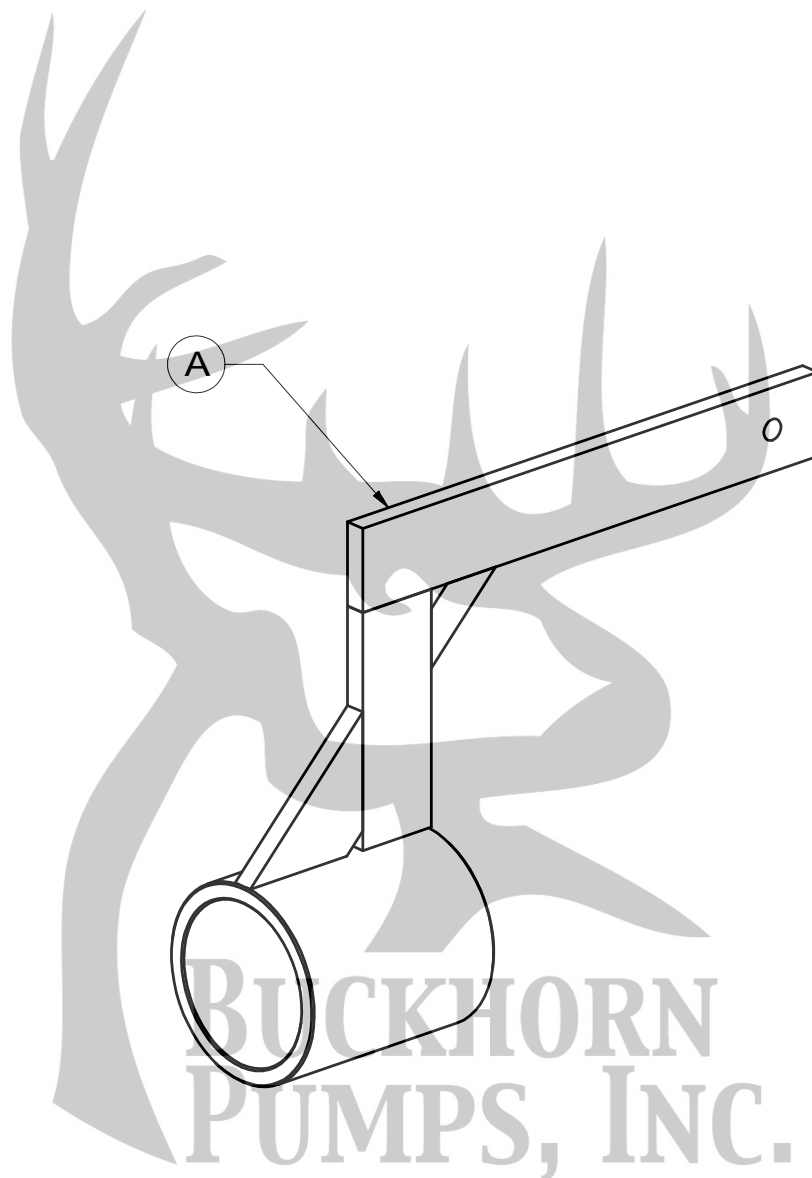

Figure 23: Crankshaft Lifting Tool
12. If damaged, remove the crankshaft oil seal (29) using a screwdriver or similar object and discard the old seal.
14. Tapered roller bearing cones (12) and center bearings (13) must be heated to aid in assembly onto the crankshaft. Always observe proper safety procedures and use heat resistant tools and gloves when handling hot parts. There are a number of recommended methods for heating bearings. Electric ovens or electrically heated oil baths may be used, but only when accompanied by proper thermostatic control.
15. To replace the tapered roller bearings (12) on the crankshaft, heat the bearing cones to a maximum of 300° F (149° C). Slide them down the shaft until they are fully seated against the shoulder. The hot cone may pull away from the shoulder unless it is held in position until it cools enough to grab the shaft. Use a .001" thick feeler gauge to insure the cone is fully seated against the shoulder after parts have cooled.
16. To replace the center bearings (13) on the crankshaft, heat the center bearing to a maximum of 300° F (149° C) and slide them down the shaft until they are fully seated against shoulder on the crankshaft. Install the center bearing clamps and flathead cap screws.
17. Use a press to seat the new cups (11) into the bearing housings. Never use new bearing cones with old bearing cups. Always use matched sets from one manufacturer. Installation Tip: The bearing cup can be placed in a freezer at 20° F (-7° C) or colder for at least 30 minutes to shrink the part enough to allow easier installation.
18. Reassemble the crosshead assemblies and connecting rods. Match the marked connecting rod and crosshead back together. Be sure to align the oil slot in the crosshead with the oil pocket in the connecting rod. Insure that the set screws (23 and 24) retaining the wrist pins (5) are in place (if they were removed for repair or inspection of the wrist pin bushing). The set screw must engage the flat on the wrist pin. Refer to Section 11.0 for torque specifications.
20. Install crankshaft in the power frame. It is recommended that two people be available for crankshaft installation due to the size and weight. A hoist and counterbalance lifting device should be used if possible. Refer to Figure 23 for
Handling the large crankshafts for the Q28 and Q32 pump assemblies requires great care to avoid injuries and to prevent damage to the critical surfaces of the crankshaft. The illustration shown in Figure 23 depicts a lifting tool that will slide onto the drive end of the crankshaft and is balanced to allow easy removal. Contact FMC for tool details if required.